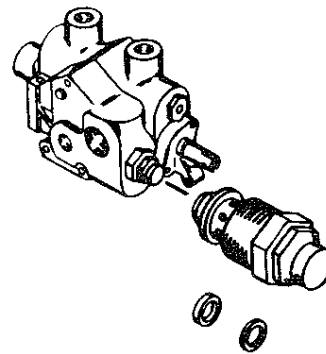

Figure E-7. Relief Valve
- 3 If low, shut off the engine and remove the relief valve plug (figure E-7). Install one 0.010 inch shim which will provide a 125 psi increase